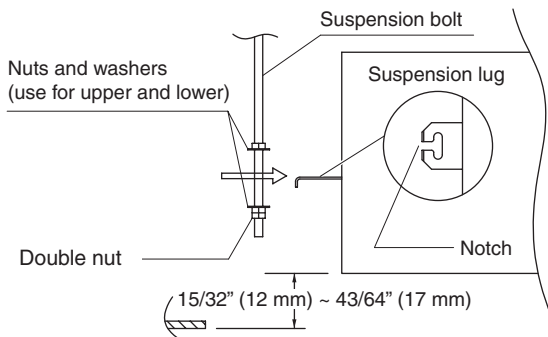

Fig. 1-123
- (3) Thread the 3 hexagonal nuts and 2 washers (field supply) onto each of the 4 suspension bolts as shown in Fig. 1-123. Use 1 nut and 1 washer for the upper side, and 2 nuts and 1 washer for the lower side, so that the unit will not fall off the suspension lugs.
- (4) Adjust so that the distance between the unit and the ceiling bottom is $15/32"$ (12 mm) ~ $43/64"$ (17 mm). Tighten the nuts on the upper side and lower side of the suspension lug.
- (5) Remove the protective polyethylene used to protect the fan parts during transport.
- (6) Check with a tape measure or carpenter's level.